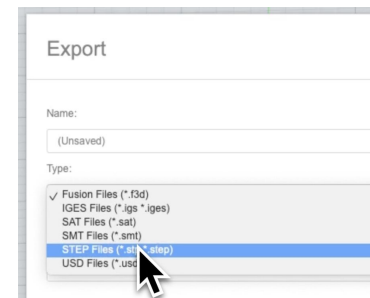

Figure 1.3
4. Use the drop-down menu to choose STEP (.stp) as the file type (see Figure 1.3).